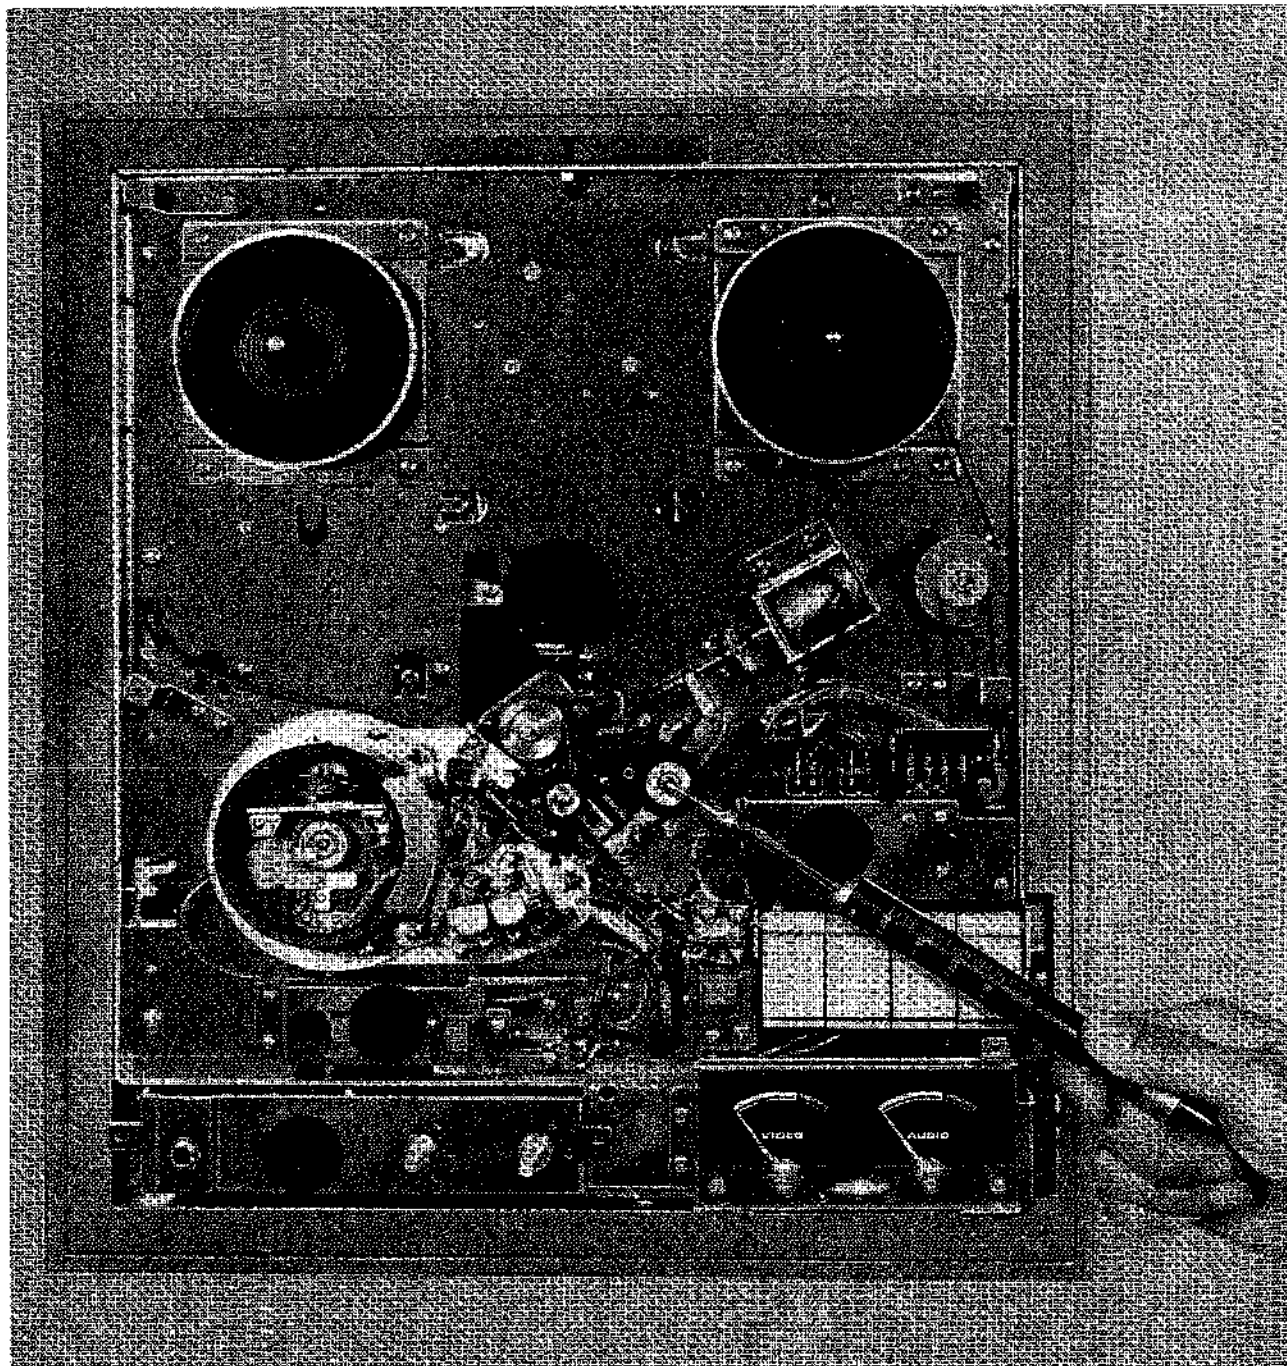

Fig. 2
- (c) As shown in Fig. 2, connect a 0 to 2,000 gr. Spring Gauge to the Pinch Roller Shaft and measure the Pinch Roller Pressure. Standard pressure when Pinch Roller Revolutions are stopped (playback mode) is 1,700 gr (± 200 gr).